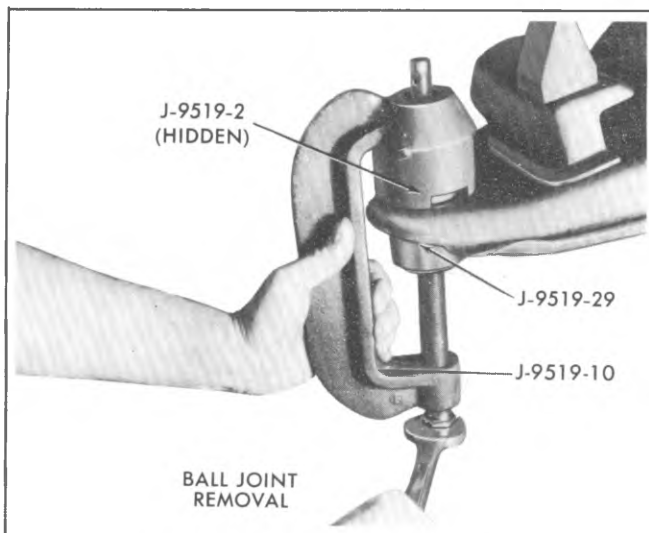

Fig. 3C-29--Ball Joint Removal
4. Install J-23742 between the ball studs as shown in Figure 3C-27.